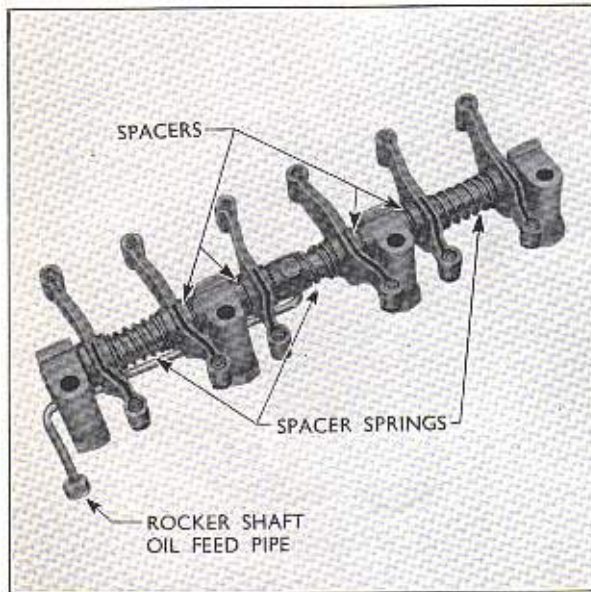

Fig. 1
1. Fit the support brackets, spacer springs, spacers, rocker arms and the oil feed pipe in their correct order, as shown in Fig. 1, taking care to ensure that the stud holes in the rocker shaft support brackets are on the left when viewing the rocker shaft from the front. (Opposite end to the oil feed pipe.) The rocker arms are right- and left-handed and should be fitted with their "sets" positioned as shown in Fig. 1.